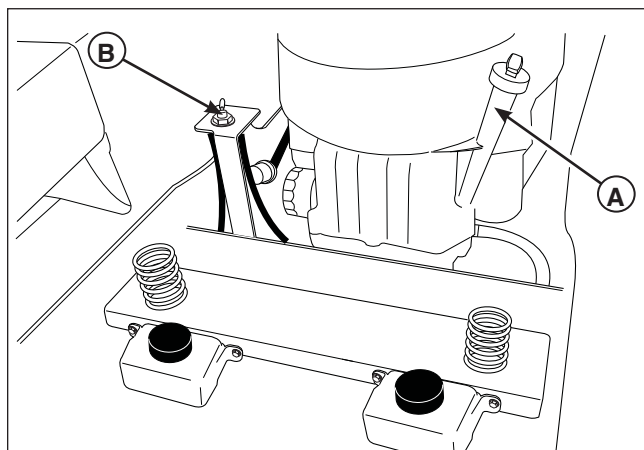

Figure 3. Checks Before Starting
- Check that crankcase is filled to full mark on the engine oil dipstick (A, Figure 3). See the engine Operator's Manual for instructions and oil recommendations.
- If equipped, make sure the fuel selector valve (B) is in the "ON" position.